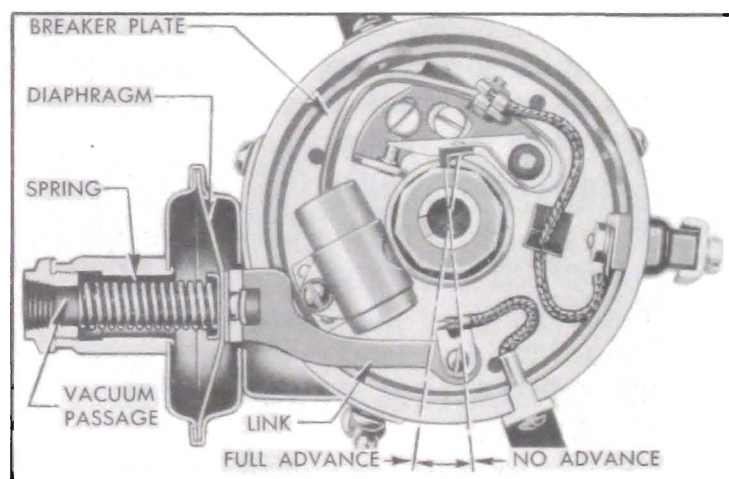

Figure 10-67—Vacuum Advance Mechanism
3. *Vacuum Controlled Advance* which is governed by manifold vacuum during part throttle operation. The vacuum control mounted on the side of distributor housing contains an air-tight, spring loaded diaphragm which is connected by a link to the breaker plate. The breaker plate is mounted so that the plate and attached contact points can be rotated around the distributor cam by the control link. See figure 10-67. The spring-loaded side of the diaphragm is connected by a pipe to an opening in the carburetor barrel. This opening is on the atmospheric side of the throttle valve when the throttle is in idling position so that there will be no vacuum to operate the advance mechanism. When the throttle valve is opened equivalent to approximately 18 MPH, the vacuum at the opening is sufficient to act on the control diaphragm, causing it to compress the spring